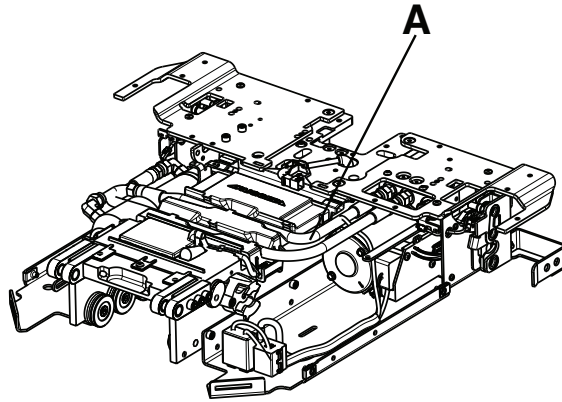
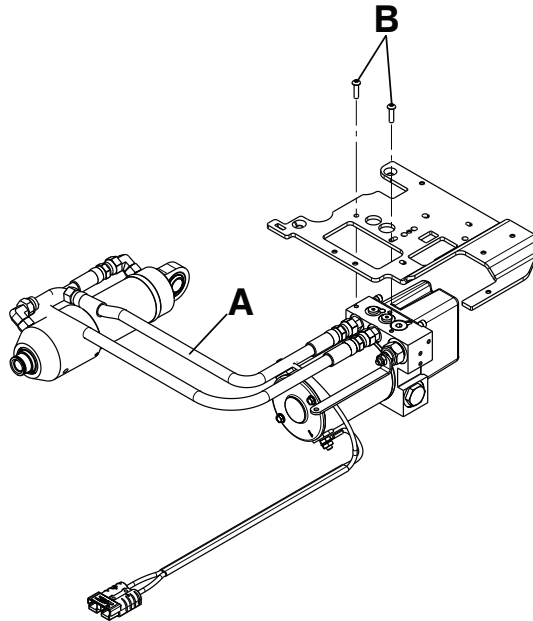

Figure 39 – Hydraulic hose location
Figure 40 – Manifold fitting screws location
3. Using an 11/16" combination wrench, disconnect the hydraulic hose (A) closest to the mounting bracket at the head end of the trolley (Figure 39 and Figure 40).
4. Using a T25 Torx driver, loosen (do not remove) the two screws (B) that secure the manifold fitting to the left wing plate (Figure 40).